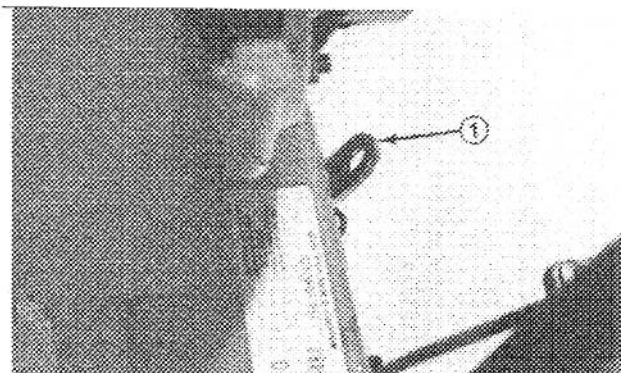

Figure 9
1. Pull speed selector arm to the fully "out" position (Fig. 9) and move control handle on escutcheon plate to the R (REVERSE) position to ease assembly.